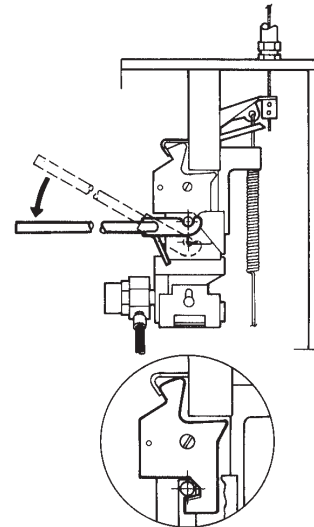

FIGURE 5-33
11. Using the long handle cocking lever (Part No. 441041) or wrench on short handle cocking lever (Part No. 441042), pull down to raise cocking pin until the trip lever indented surface moves underneath the pin and locks the pin in the **Up** position. See Figure 5-33.